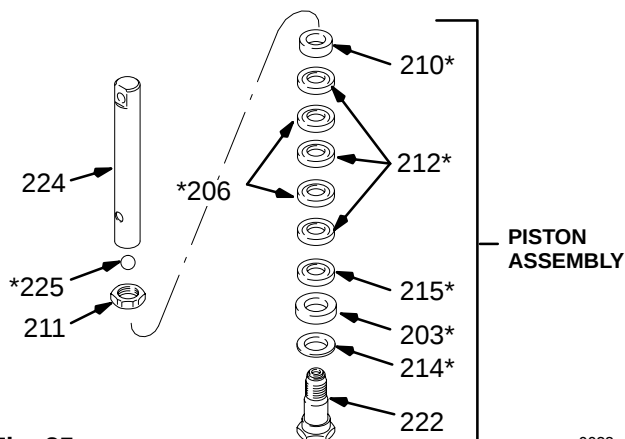

Fig. 25
7. Clamp the flats of the piston rod in a vise. Loosen the retaining nut (211). Unscrew the piston valve (222) from the rod. Remove all parts from the piston valve (222). See Fig. 25.
8. Remove and clean the sleeve (218). Use **ONLY** the special sleeve removal tool, P/N 222–586.
1. Check the outside of the piston rod (224) and the inside of the sleeve (218) for scoring or scratches. If these parts are damaged, new packings will not seal properly. Replace these parts if needed.
2. Stack the backup washer (214), seal (203*), female gland (215*), alternate packings (212*,206*), and then male gland (210*) onto the piston valve (222). See Fig. 25.